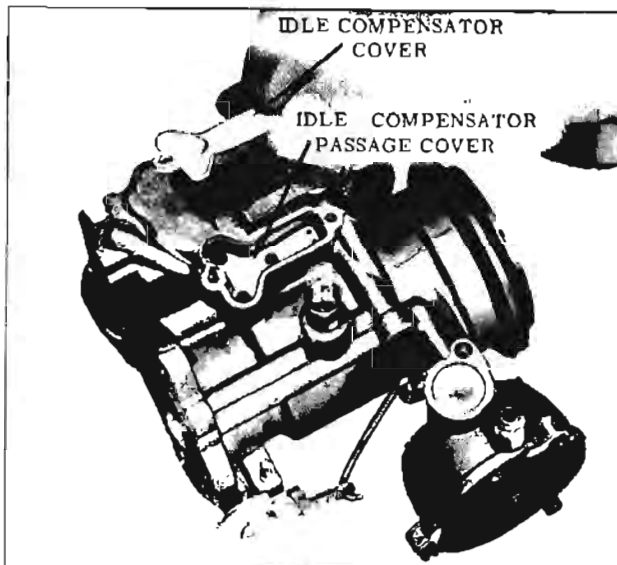

Fig. 9-122 Passage Covers
8. Remove idle compensator cover and passage cover by removing two attaching screws, (Fig. 9-122)
9. Install new idle compensator passage gasket and cover, retaining with two attaching screws. Then install idle compensator cover with the two attaching screws. (Fig. 9-122)